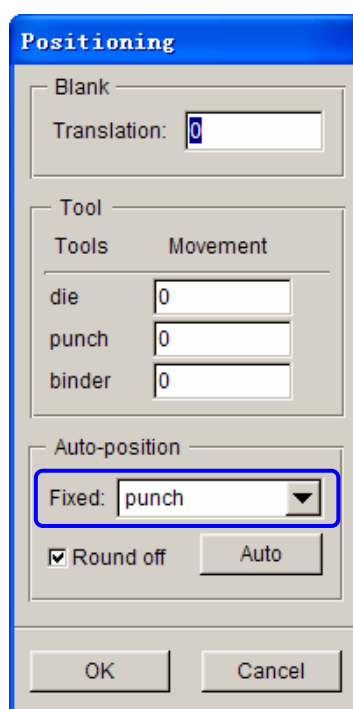

Figure 1.30 Before tools positioning
1. Click the **Positioning...** button located at the lower right corner of the tool definition interface to display the POSITIONING dialog box illustrated in Figure 1.30. Alternatively, you can select **Tools→Positioning...** from the menu bar.